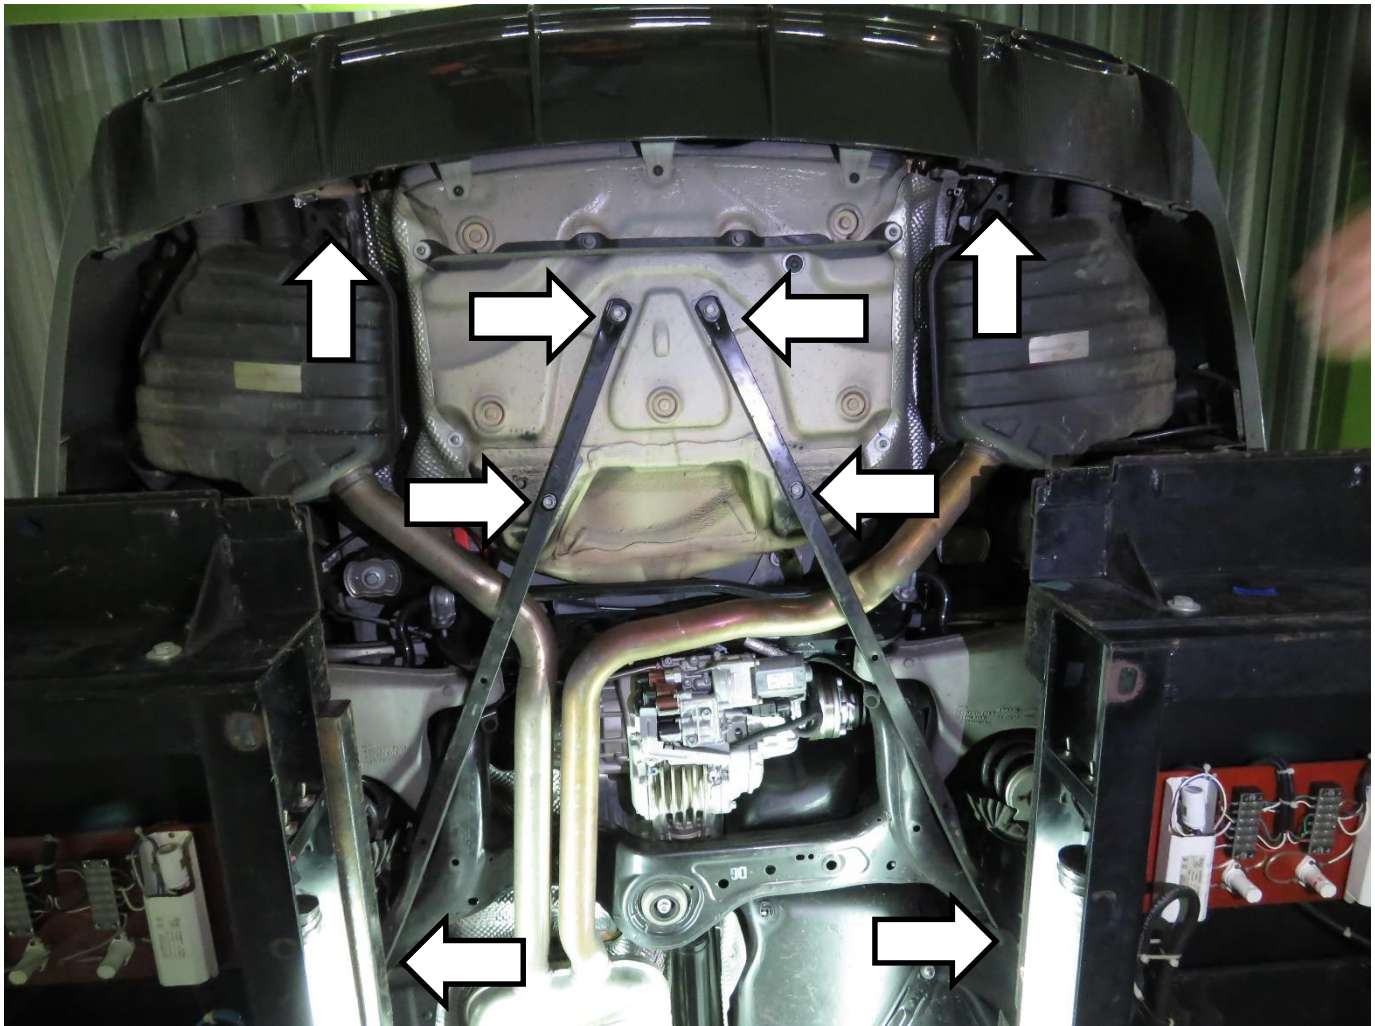

Figure 2
- 2) Remove the bottom bracket, loosen hanger bracket screw (Figure 2).